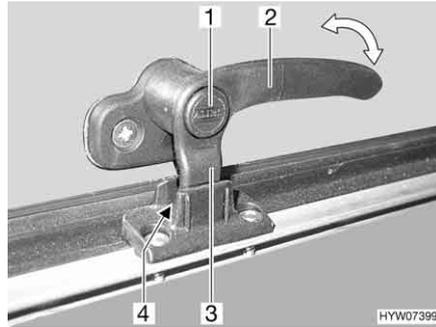
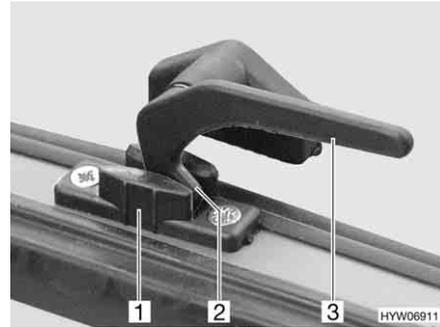

Fig. 65 Catch lever with safety knob in "continuous ventilation" position
Fig. 66 Catch lever in "continuous ventilation" position
- "Continuous ventilation" (Fig. 65 and Fig. 66)
- Press and hold the security button (Fig. 65,1), if present.
- Turn the catch lever (Fig. 65,2 or Fig. 66,3) a quarter turn towards the centre of the window.
- Return the catch lever to its initial position. Move the locking catch (Fig. 65,3 or Fig. 66,2) on the catch lever into the recess of the window catch (Fig. 65,4 or Fig. 66,1).